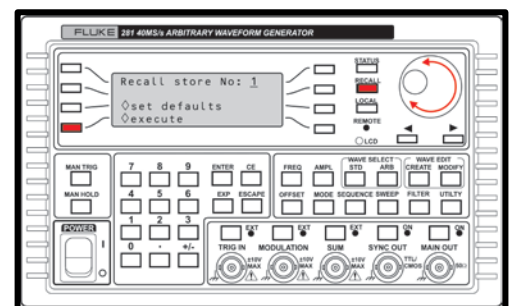

Figure 5.7 RECALL menu
1. Locate the RECALL button on the Fluke AWG and press once to bring up the Recall menu (see **Figure 5.7**).